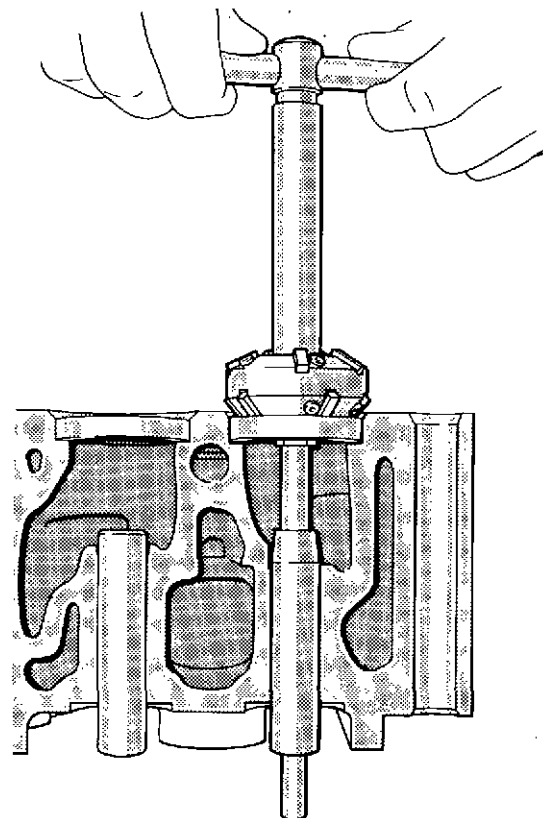

Fig. 5 Cutting valve seat insert
- 36 Inspect the inserts for pitting, cracks and valve bedding. The seating face may be restored by lapping, or in severe cases, by re-cutting the seat, as shown in figure 5. Ensure that the tool is set for the correct angle cut, (see under 'Valves' in this Section).